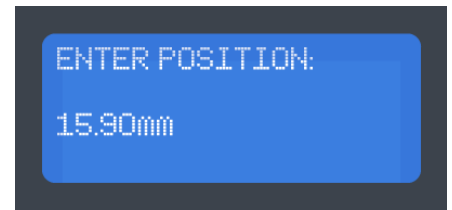

Fig. 13
1. Ensure that the AIC10 is on the Iris Status Screen, and then press the "SELECT / ACCEPT" (  ) button once (Fig. 13).